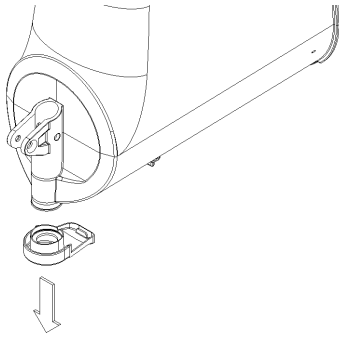

figure 12
- remove the flow restrictor from the container (see figure 12)
- 5** Remove the flow restrictor from the container (see figure 12).